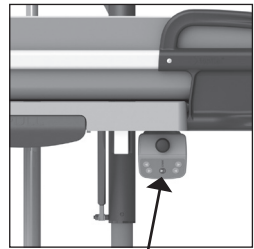

Figure 14 Emergency lowering button.
If the handcontrol stop working and the stretcher is in a raised position, it can be lowered using the emergency lowering button. This button is located on the controlbox (See figure 14).
- Press the emergency lowering button (See figure 14).